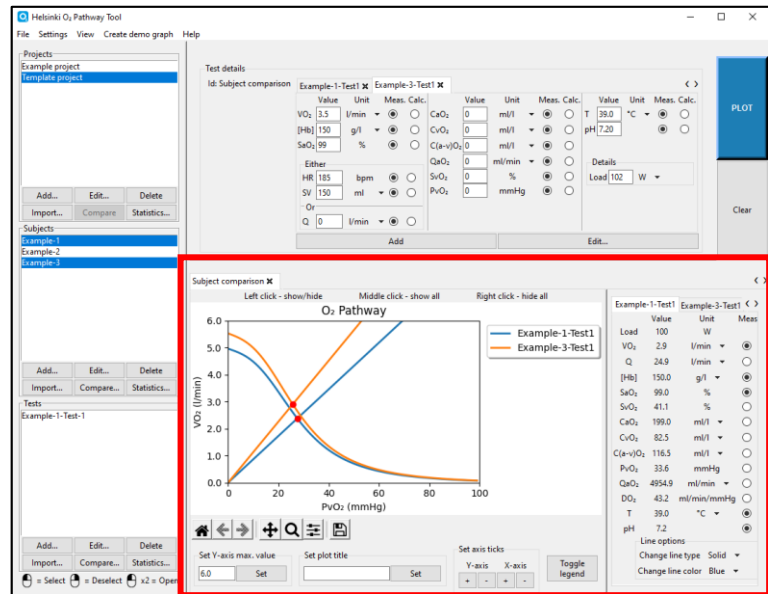

Figure 43
8. The comparison figure is shown in the plot panel (figure 43).